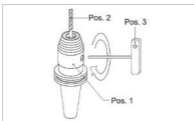

Figure 6: Clamping tool.
- Turn the pinion clockwise to the stop with the aid of the hex-wrench (see "Figure 6: Clamping tool." Pos. 3).